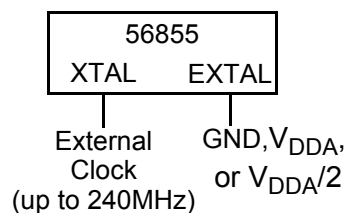

Figure 4-7 Connecting a High Speed External Clock Signal using XTAL
The recommended method of connecting an external clock is given in Figure 4-7. The external clock source is connected to XTAL and the EXTAL pin is held at ground, V_{DDA} , or $V_{DDA}/2$. The TOD_SEL bit in CGM must be set to 0.
1. See Figure 4-7 for details on using the recommended connection of an external clock driver.